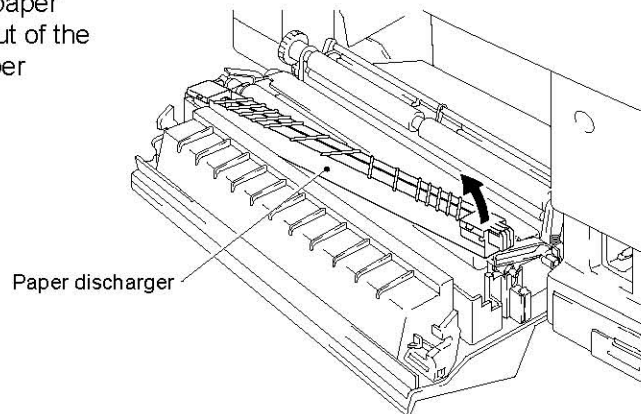

Fig. 6-23
- (2) Clean the area where the paper discharger is mounted. (Fig.6-23)
- (3) Install the new paper discharger into the transfer unit.